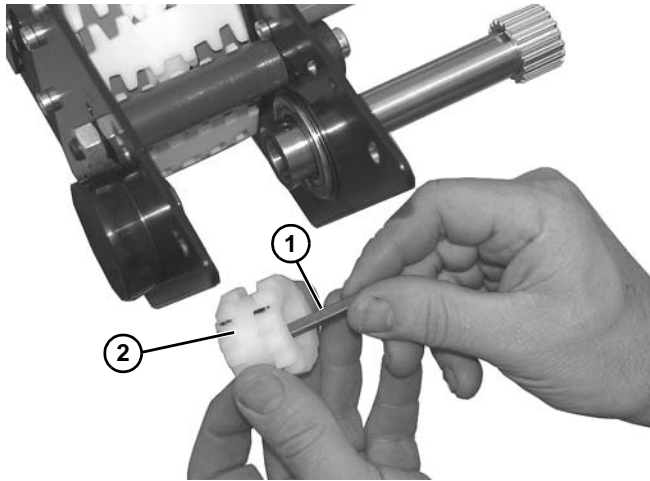

Figure 136
17. Remove key (Figure 136, item 1) from sprocket (Figure 136, item 2).